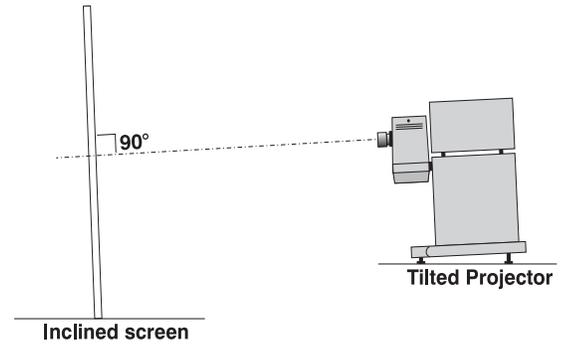
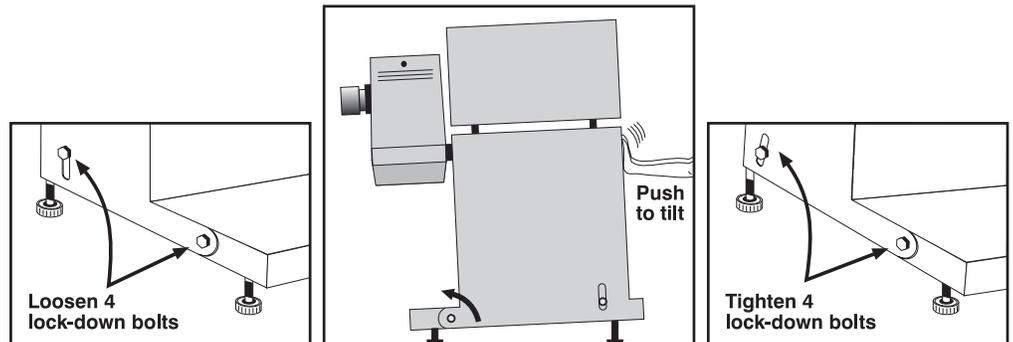

Figure 2.21. Tilt Projector to Match Screen
Figure 2.22. Adjusting Tilt
YOU MUST TILT the projector to match your screen tilt angle (see Figure 2.21). Check with theatre personnel for this information, or measure the incline with a protractor at the screen. Then, as shown in Figure 2.22:
- ❑ The **DCP** must be properly positioned relative to the screen (refer back to Figure 2.2 and Figure 2.21).